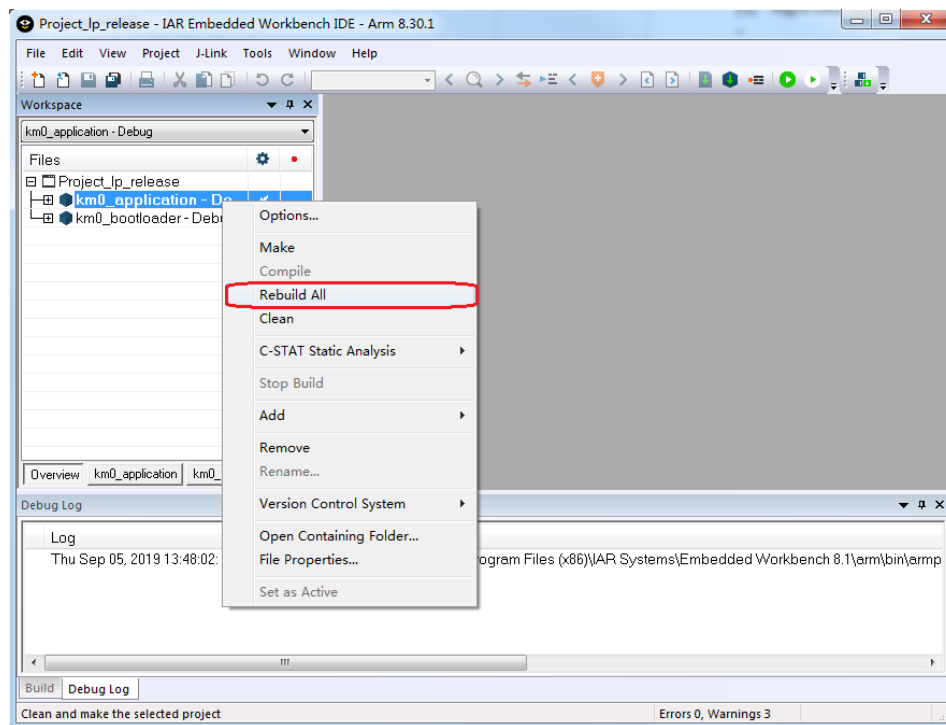

Fig 6-8 Building KM0 project
- (3) Right click the project and choose "Rebuild All", as Fig 6-8 shows. The km0_bootloader and km0_application should compile in order.